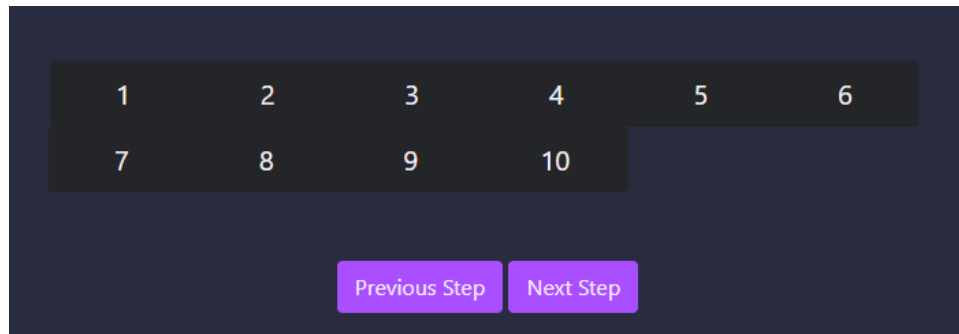

Fig. 16. Specifying the number of windings.
Step 6. Number of windings. This one is really easy, just indicate how many windings are needed in your design. The remaining two steps will be repeated for each winding that you introduce (Fig. 16).